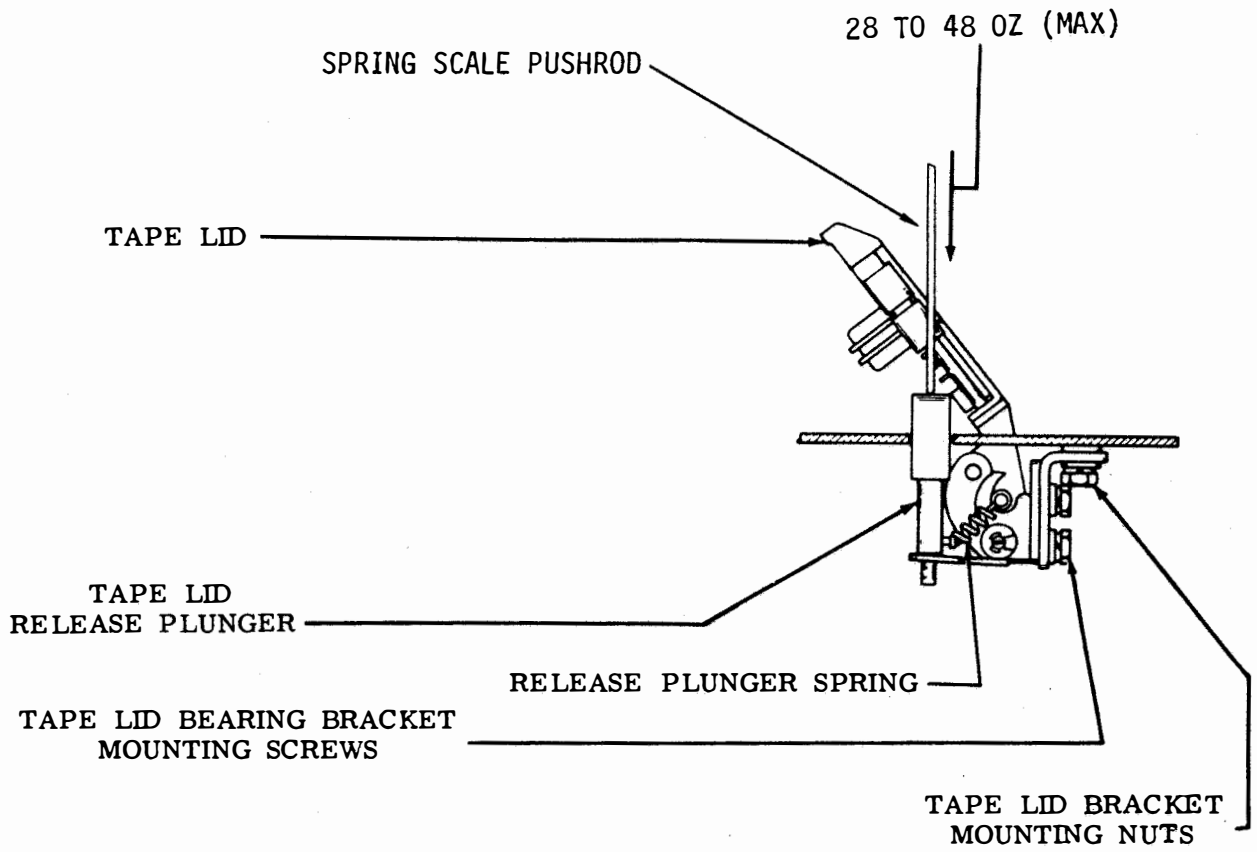

Figure 6-566. Tape Lid Release Plunger Spring For Units Without Tape Lid Spring, Right Side View
(1) Refer to Figure 6-566.
(2) Hold tape guideplate horizontal and unlatch tape lid.
(3) Apply spring scale : shrod to tape lid release plunger.
(4) Force required to start tape lid bail moving should measure 28 to 48 ounces maximum.
(5) If scale reading exceeds specified limits, install new spring.